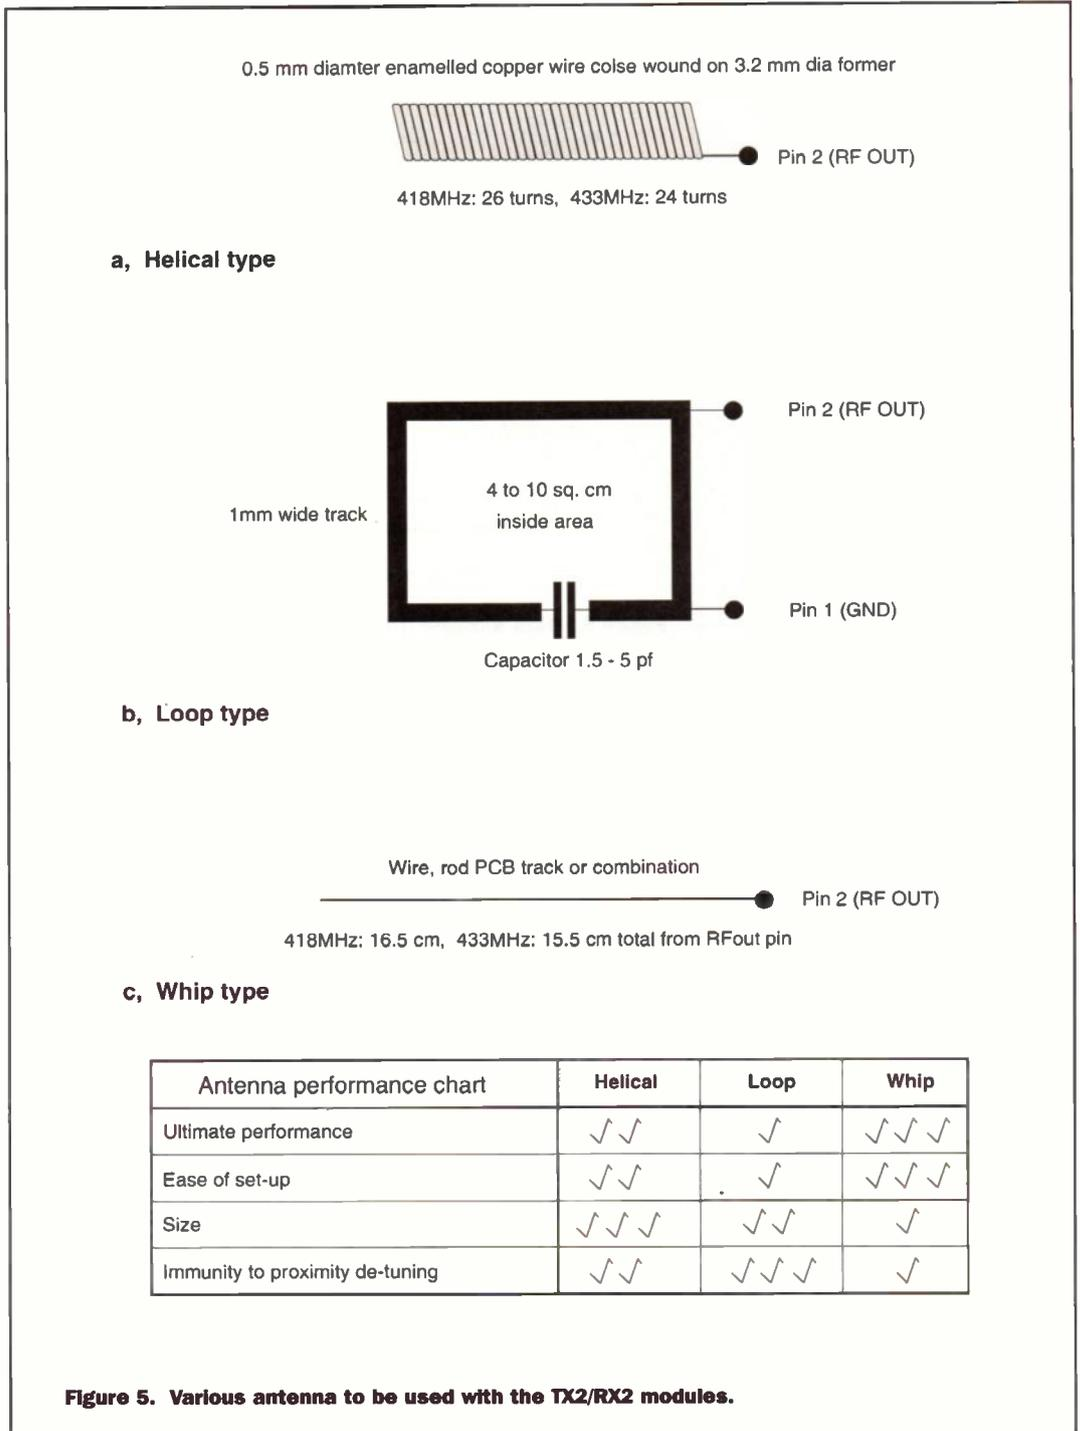

Figure 5. Various antenna to be used with the TX2/RX2 modules.
1. The transmitting antenna must be one of the 3 variants given above (see Figure 5).